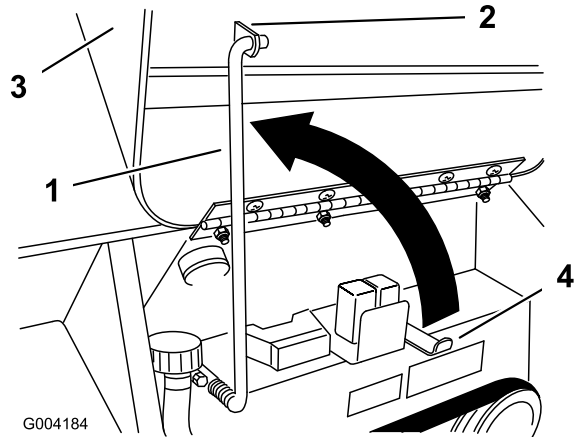

Figure 17
3. Swing the prop rod up and secure it in the bracket on the hood (Figure 17).